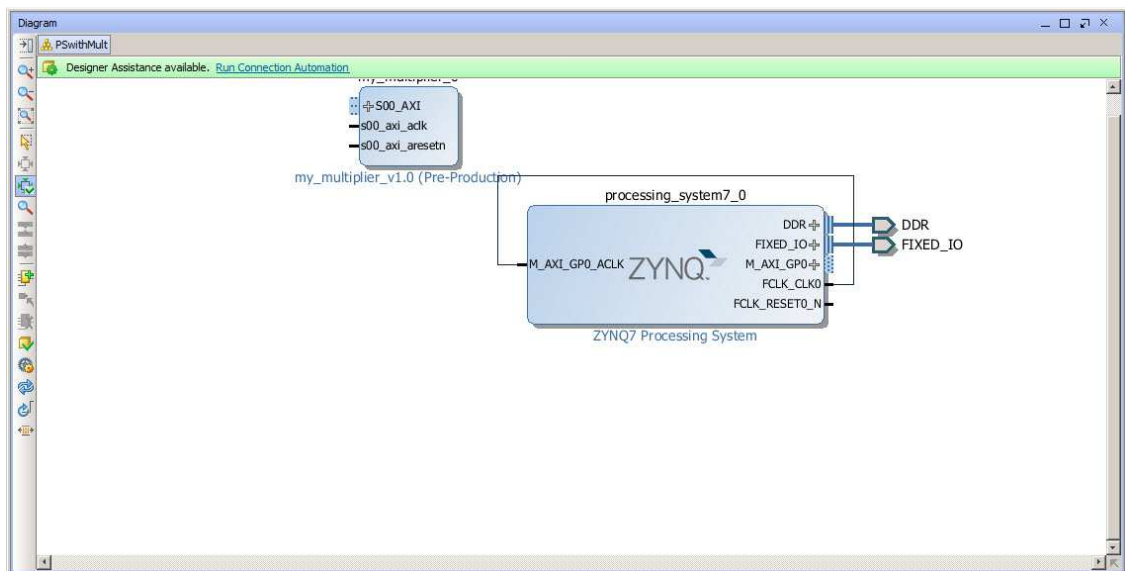

Figure 30: Run Connection Automation
3. The block should appear in the block diagram (**Figure 30**) and you should see the message “Designer Assistance available”. Click on “Run Connection Automation”.